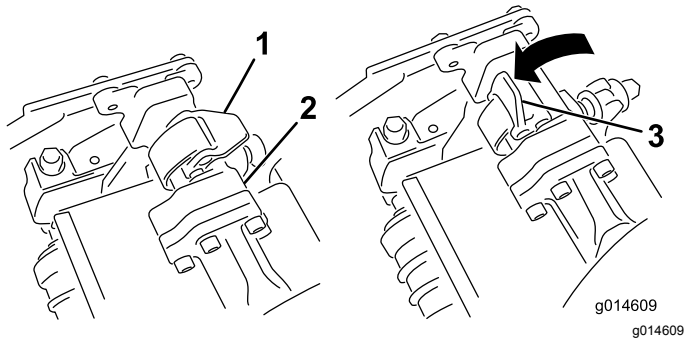
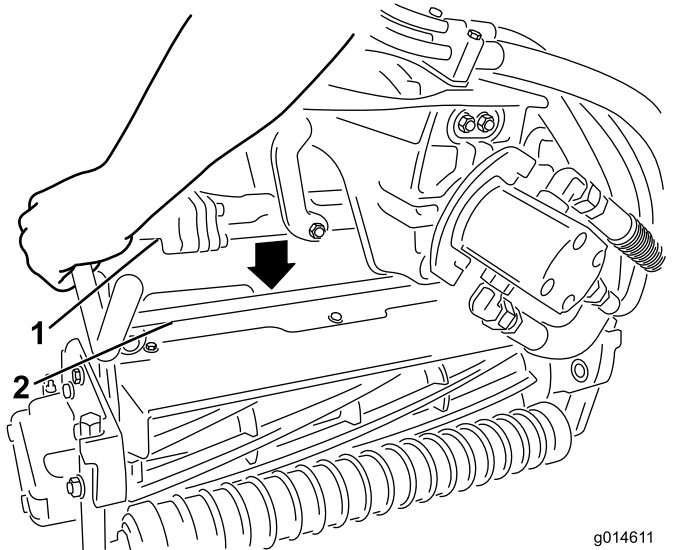

Figure 11
Figure 12
- 5. With the latches on the suspension-arm bar pointing up (i.e., open) (Figure 11), push the suspension arm down so that the bar fits over the bar across the top of the cutting unit (Figure 12).
- 6. Close the latches down and around the cutting-unit bar and lock them in place (Figure 11).